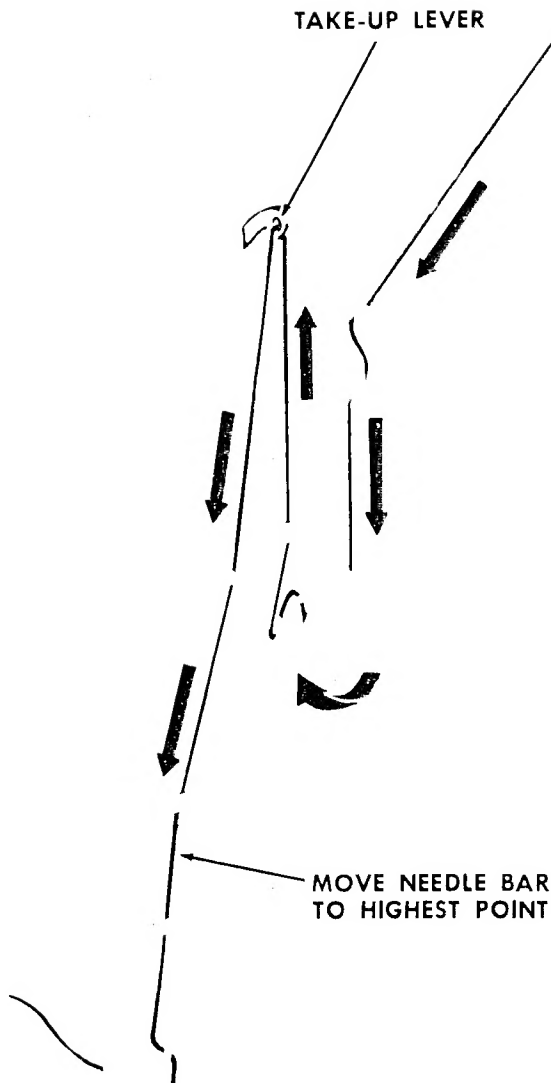

Fig. 8. Upper Threading
First, turn the machine pulley over toward you until needle is at its highest point, then pass the needle thread from the unwinder through the threading points in the order shown in **Fig. 8**.
Turn machine pulley over toward you until needle thread take-up lever is at highest point, as shown in **Fig. 8**.
- Move take-up lever to top of its stroke as shown in Fig. 8, page 6.